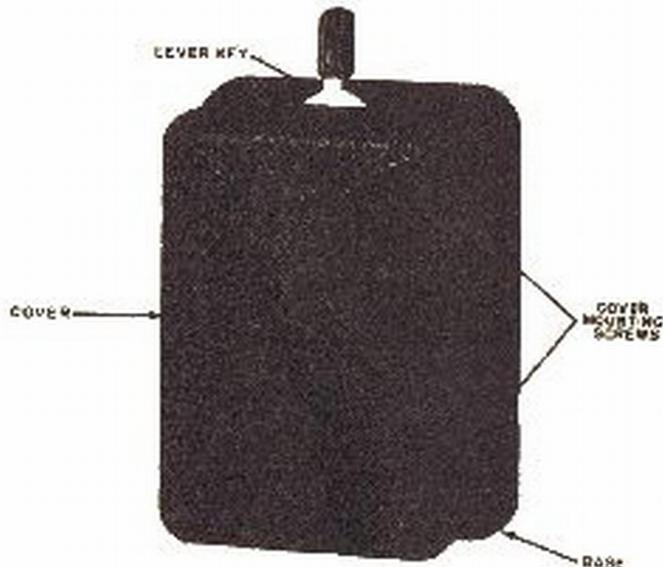
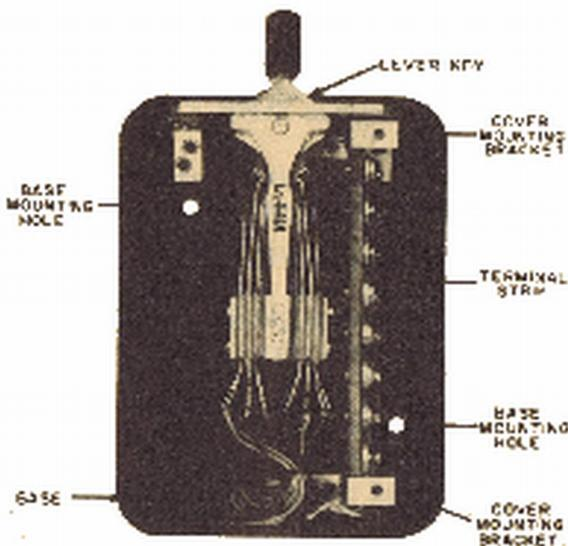

Figure 1. A. E. Co. MC-8885-A Three-Line Lever Key.
Figure 2. A. E. Co. MC-8885-A Three-Line Lever Key with Cover Removed.
2.01 The A.E.Co. MC-8885-A Three-Line Lever Key (Figure 1) is a box-type key approximately 5-inches high, 3-1/2-inches wide, and 1-3/4-inches deep. It consists of a two-conductor three-position lever key, LK-4-A1A (Figure 2), and an eight-terminal
- (1) Remove the two cover mounting screws (Figure 1).
- (2) Unscrew, and remove the handle from the lever key.
- (3) Remove the cover by pulling out the bottom end and sliding it up, free of the lever key.
- (4) Fasten the key to a wall, desk, etc., using appropriate screws through the two base mounting holes (Figure 2).
- (5) After the desired connections have been made to the terminal strip, replace and fasten the cover, and replace the lever key handle.